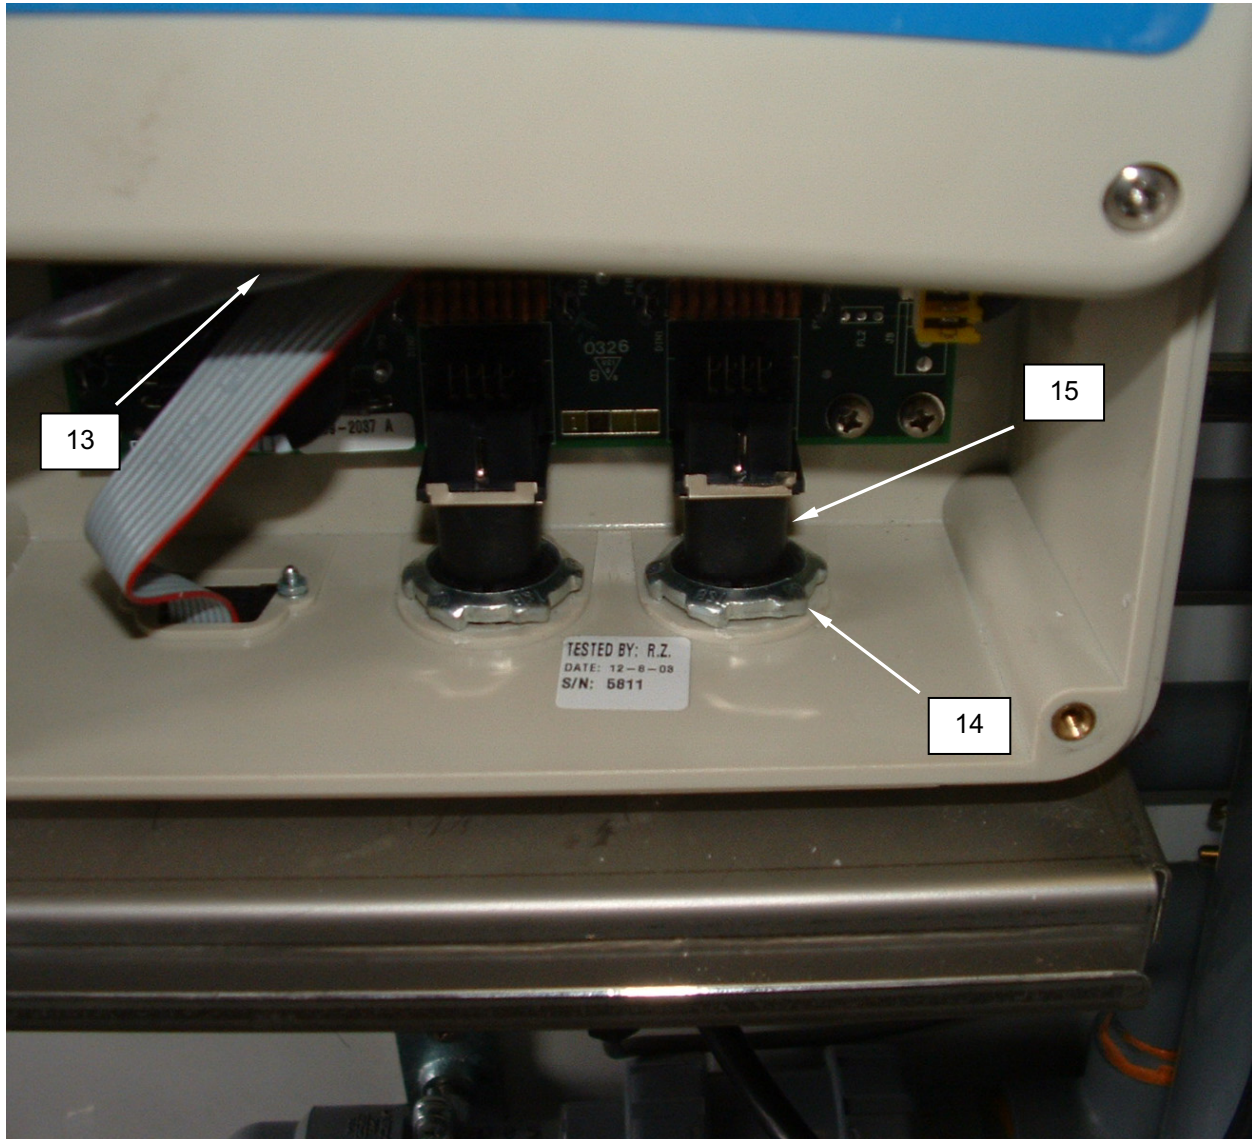

Figure 9. Replace the Automatic Soap Dispenser.
7. Remove the retaining nuts (**Figure 9, Item 14**) securing the washer control cables (**Figure 9, Item 15**), and disconnect the washer control cables.
8. Reinstall the control panel (**Figure 9, Item 13**) loosely.